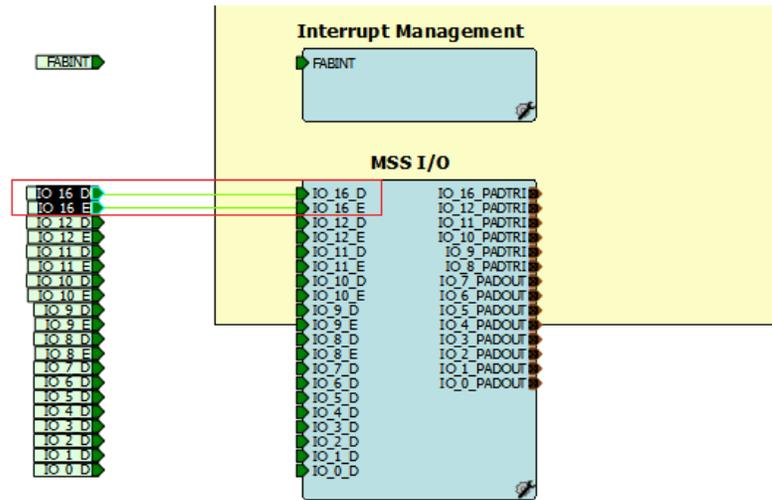

Figure 24 • MSS I/O Block After Adding Extra I/O Port
4. Now MSS I/O Block in MSS configurator is visible as shown in Figure 24.